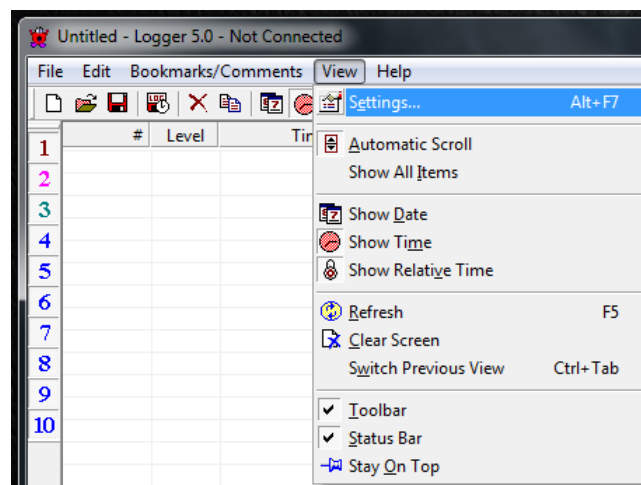

Figure 9. Selecting Logger Settings for Port Setup
1. From the Logger window menu bar, click the View menu and select Settings (see Figure 9).